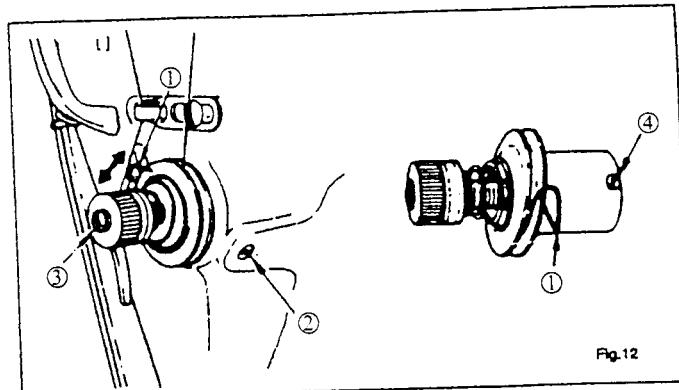

Fig.12
10. Thread take-up spring (Fig.12)